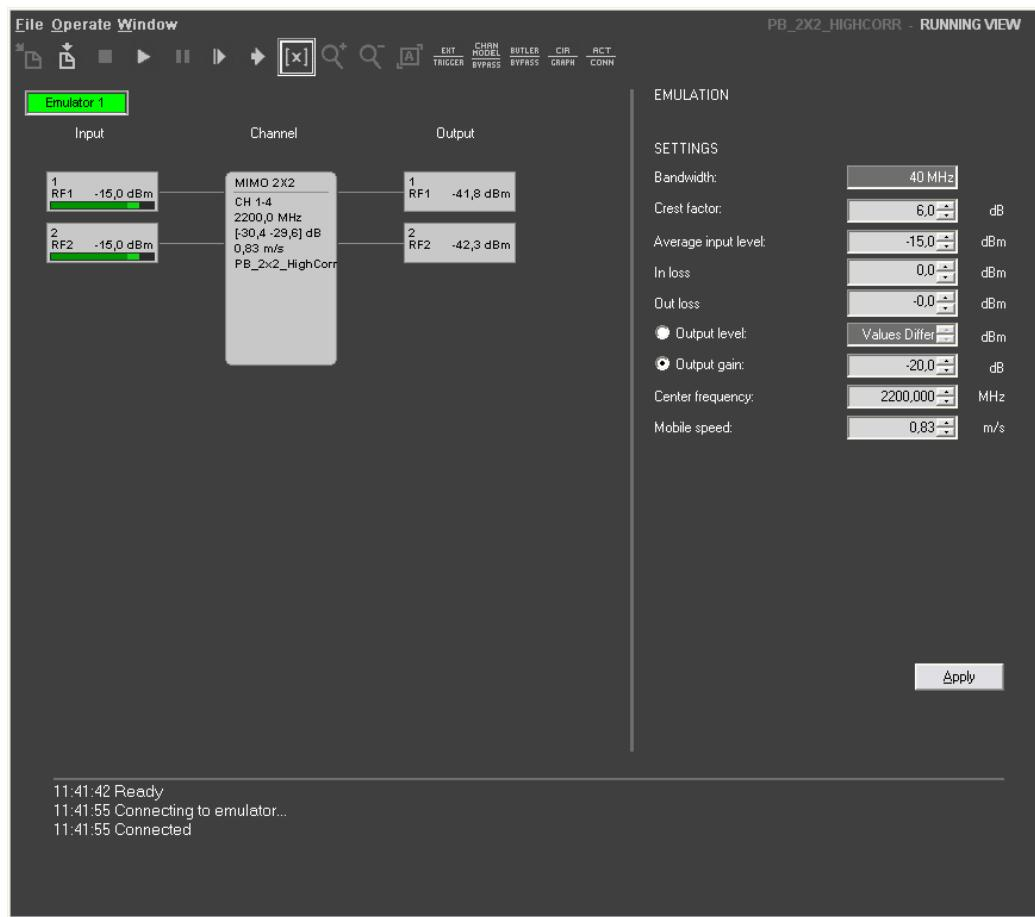

Figure 51. Running view with emulation settings
- The emulation settings can be modified in Emulation settings view (Figure 51). The view is described in chapter 4.4.5.